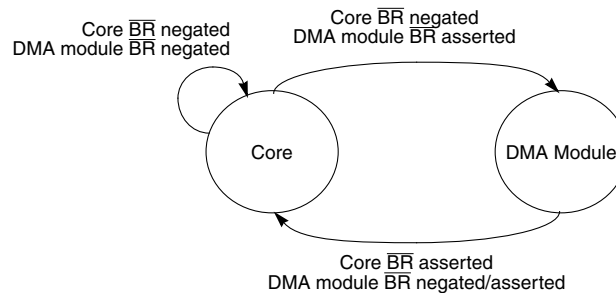

**Figure 6-11. Park on Master Core Priority (PARK = 01)**
- Park on master core priority (PARK = 01)—The core retains bus mastership as long as it needs it. After it negates its internal bus request, the core does not have to re-arbitrate for the bus unless the DMA module has requested the bus when it is idle. The DMA module can be granted bus mastership only when the core is not asserting its bus request. See Figure 6-11.